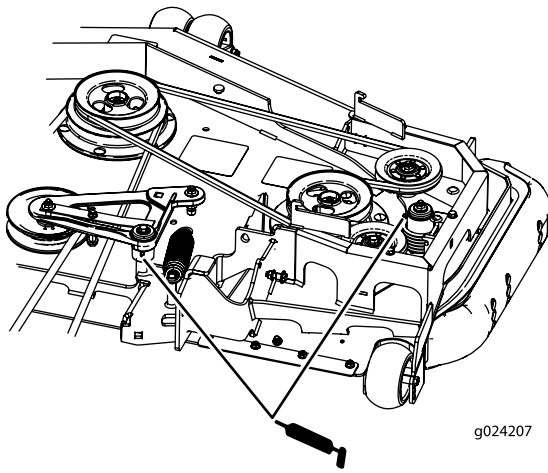

**Figure 55**
6. Grease the drive-belt idler arms (Figure 55).